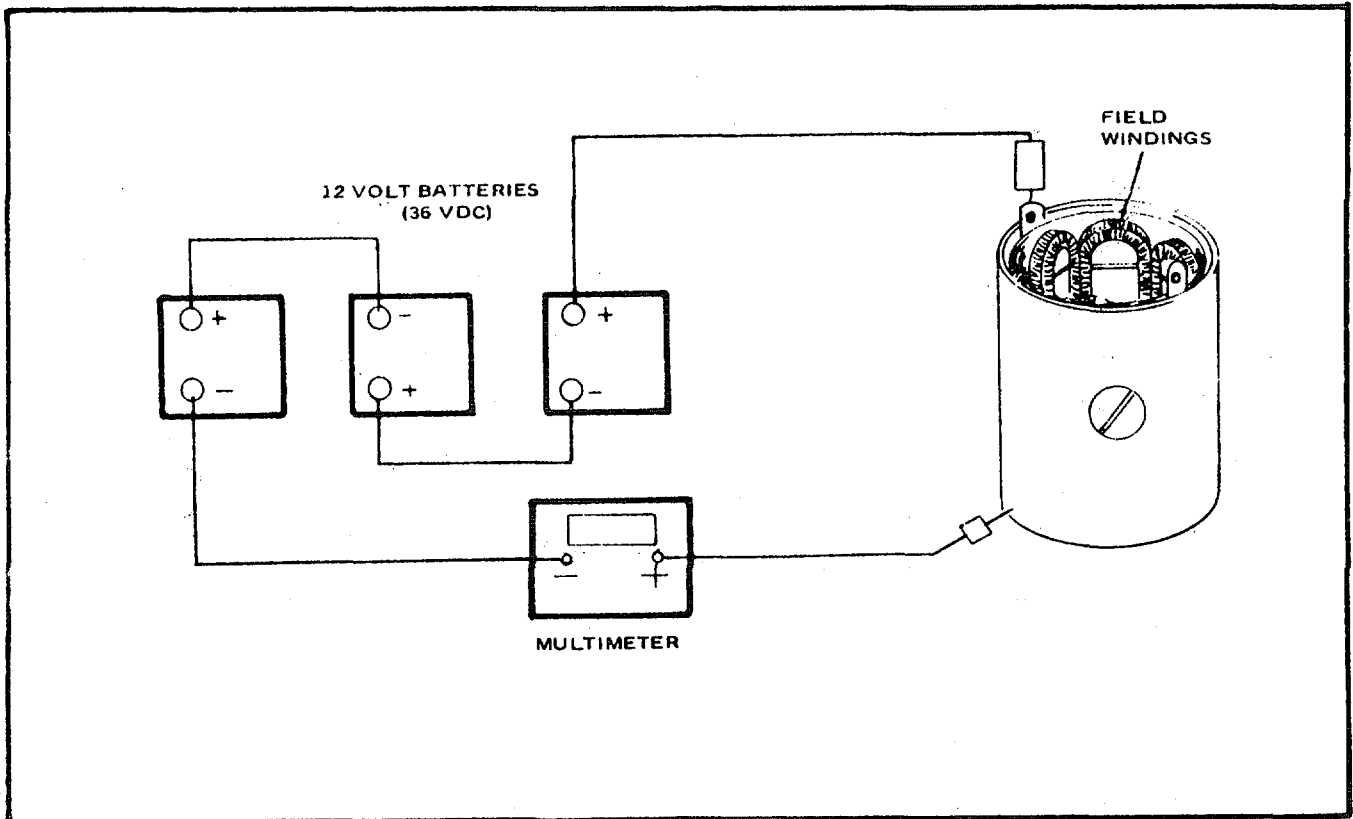

Figure 6-16. Field Winding Test Setup
- (e) See Figure 6.16. Touch multimeter positive lead to each field winding lub and jumper lead to winding housing.